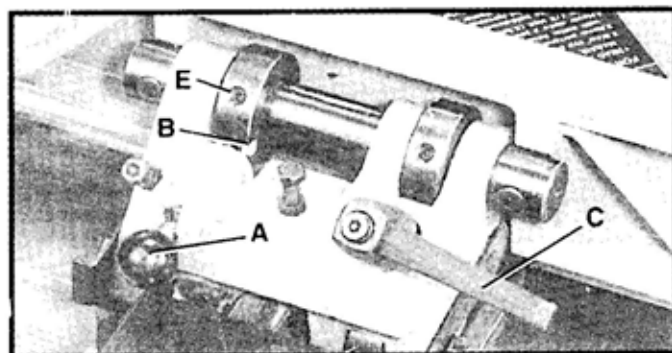

Fig. 50
1. Position the fence at 90 degrees to the table. Make certain the end of plunger (A) Fig. 50, is engaged in notch (B) in index collar as shown, and tighten lockhandle (C).
3. If an adjustment is necessary, loosen set screw (E) Fig. 50, in the index collar and loosen fence locking handle (C).
4. Tilt the fence until you are certain the fence is 90 degrees to the table and tighten lockhandle (C) Fig. 50, and set screw (E).